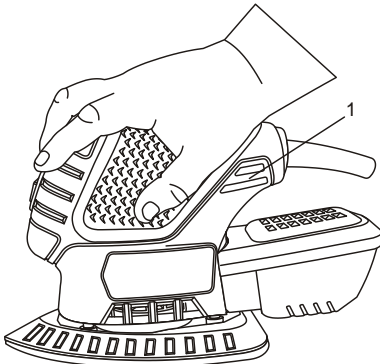

Fig. 9
NOTE: Hold the detail sander using the grip on top of the sander. Be careful NOT to cover the motor cooling vents (1) with your hand (Fig. 9). Motor damage may occur from overheating if the cooling vents are covered.